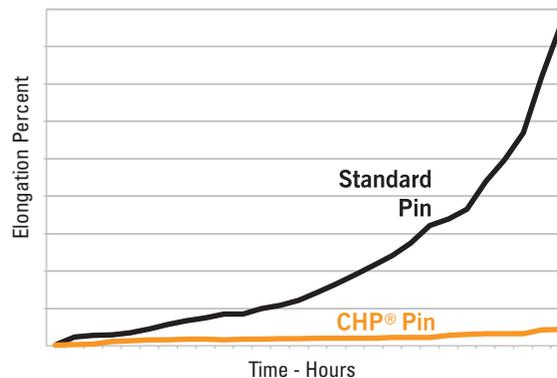

Fig. 37. Elongation vs. time.
- Exceptional pin wear resistance reduces chain elongation and can increase wear life up to three times over conventional premium chains (fig. 37).